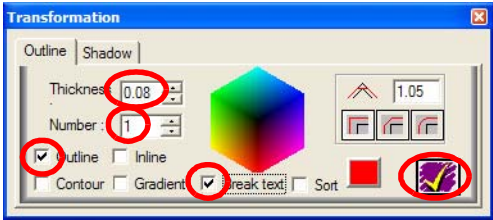

Figure 96
- 5 Make the following selections in the **Transformation** box (see figure 96).